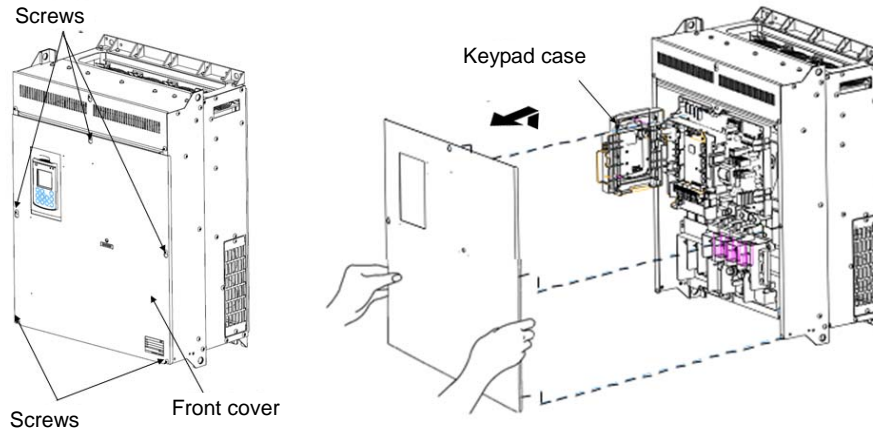

Figure 2.3 Removing the Front Cover and the Wiring Plate (VXA210S-4E)
**(2) 110 to 710 kW**
- ① Loosen the screws on the front cover, hold the right and left ends of the front cover, and slide it up to remove it.
- ② After making the necessary wiring connections, align the top of the front cover with the holes on the unit and reattach the cover by reversing the process illustrated in Figure 2.3.